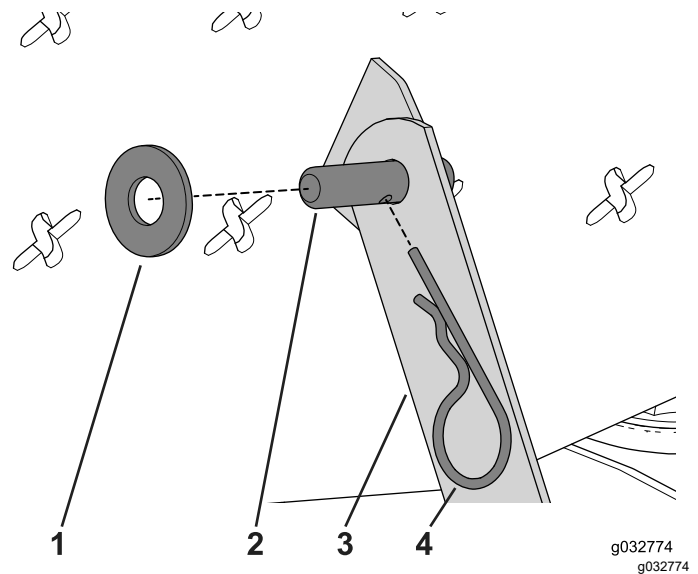

Figure 127
2. Use the washer and hairpin to secure the lift arm to the operator plate (Figure 127).